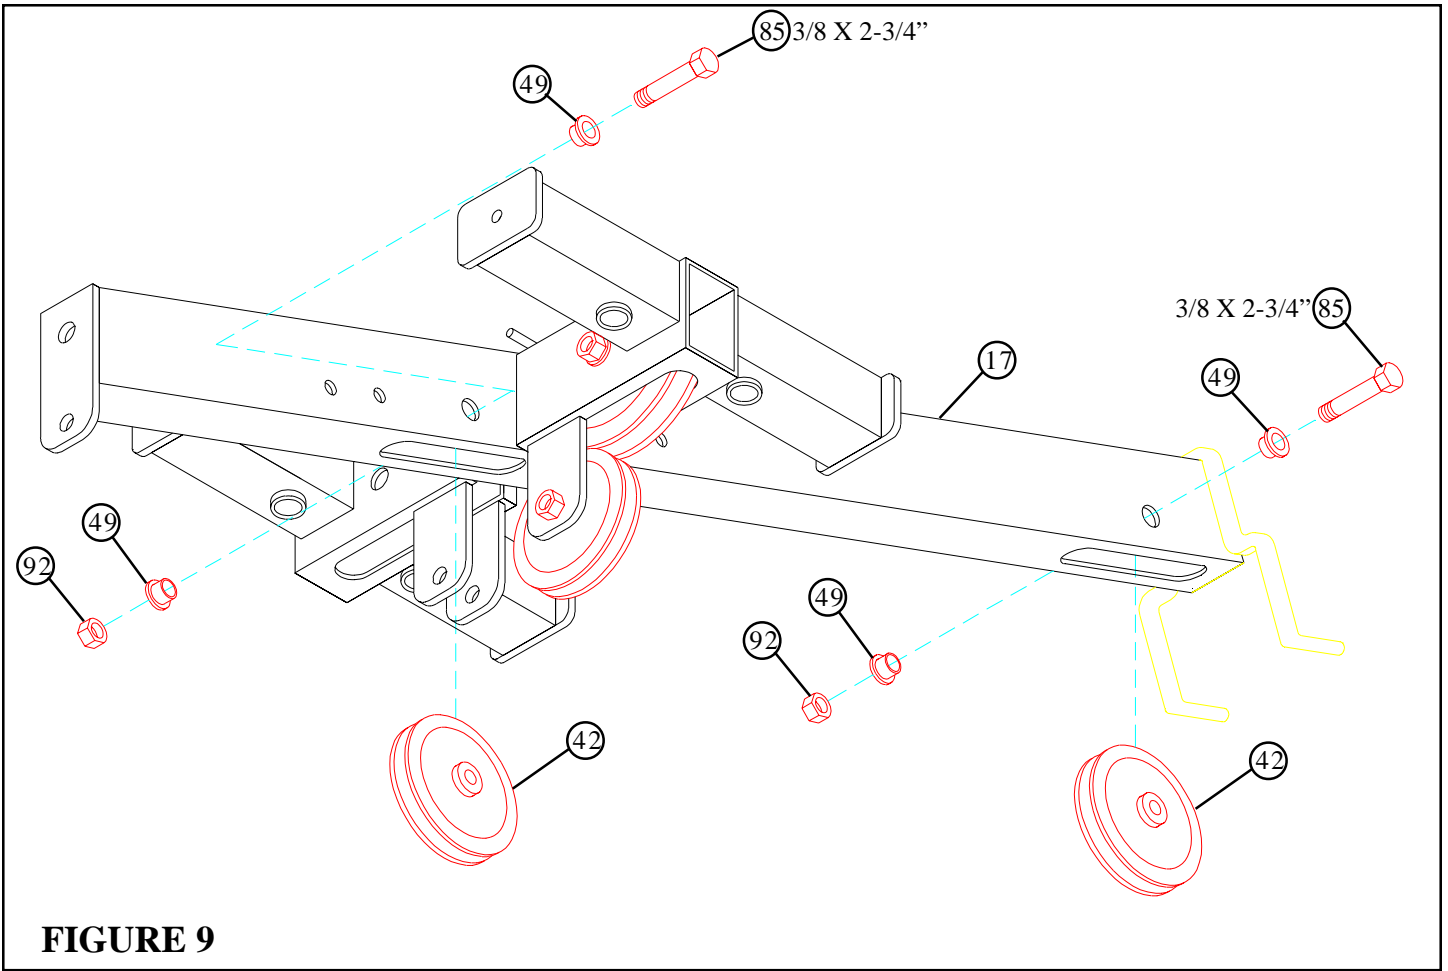

FIGURE 9
- **LOOSELY** assemble two 3-1/2" PULLEYS (42) to the TOP BOOM (17) using two 3/8 X 2-3/4" BOLTS (85), four 3/8" FLANGE SPACERS (49), and two 3/8" LOCK NUTS (92). See FIGURE 9.